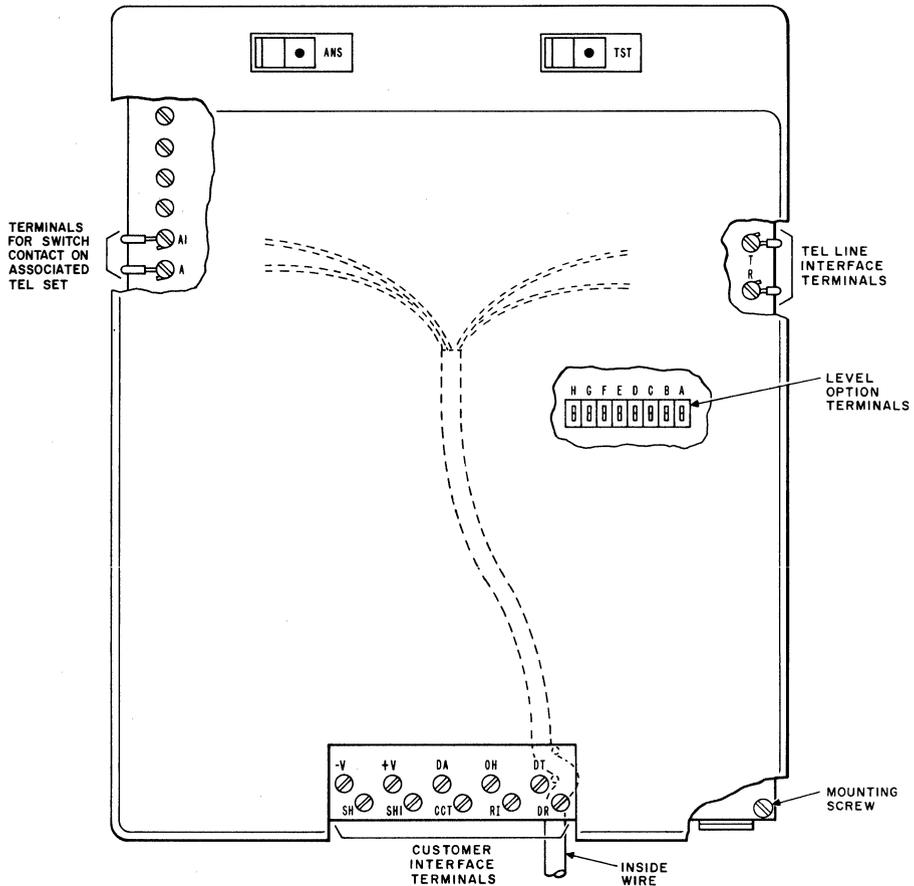

Fig. 2—Route of Station Wiring and Location of Terminals
**2.02** Circuitry for the coupler is mounted on a single printed CP. Ten screw terminals, located on the lower end under the small hinged cover, provide the interface for connecting customer equipment (Fig. 2). The interface control leads use contact closures for signaling. See Table A for the designation of interface leads. The cord required for connecting customer equipment to the interface must be supplied by the customer.